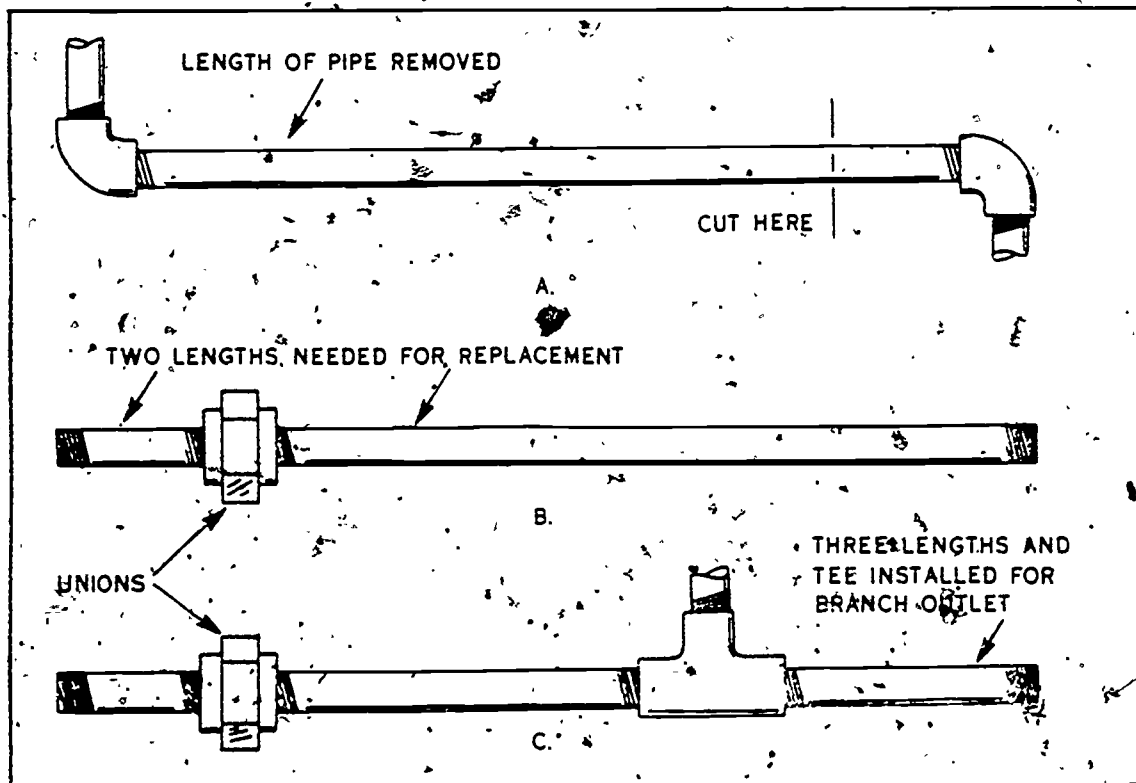

Figure 6-7 Replacing pipe
**Permanent pipe repairs.** Permanent pipe repairs should be made with pipes and fittings that are the same size and quality as the original installation. To make a permanent pipe repair, disconnect the pipe line at a convenient point, such as a union, and remove the damaged pipe. If there is no union, remove the damaged section of pipe by cutting it with a hacksaw or a regular pipe cutter. Cut the pipe at least 4 inches from a fitting, as shown in figure 6-7, A; then unscrew the ends. Cutting the pipe at least 4 inches from a
fitting gives you working room to thread this short length and use it when you reassemble the pipe. The new section is made up of two lengths of pipe, one of which may be part of the old pipe and a union, which, when assembled, should equal the length of the old pipe, as shown in figure 6-7, B. A single length of pipe can be installed only when the old length of pipe is disconnected at a union. A similar procedure is followed when a branch line is cut into an existing line, except that a T-fitting is required between two new lengths, as illustrated in figure 6-7, C. This assembly must also be equal to the original length of pipe that was removed.